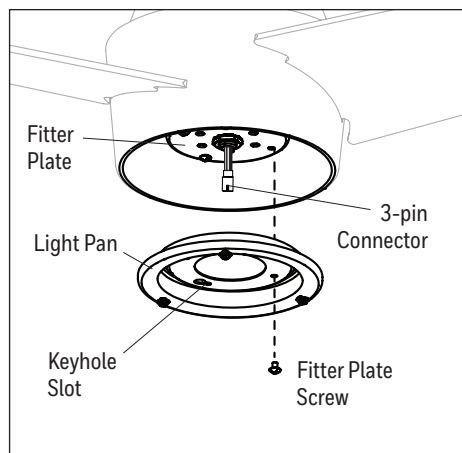

Figure 5.4
4. Remove one of the four fitter plate screws from the fitter plate and loosen the other three but do not remove. Feed the 3-pin connector through the center hole in the light pan. Align the keyhole slots in the light pan with the loosened screws in the fitter plate. Turn light pan clockwise and replace the previously removed fitter plate screw. Tighten all screws (Figure 5.4).